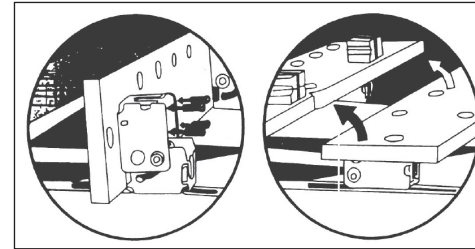

Fig. 1
- Connect the worktops (1) to the slide bases (2) using the wood screws (8) – Fig. 1.